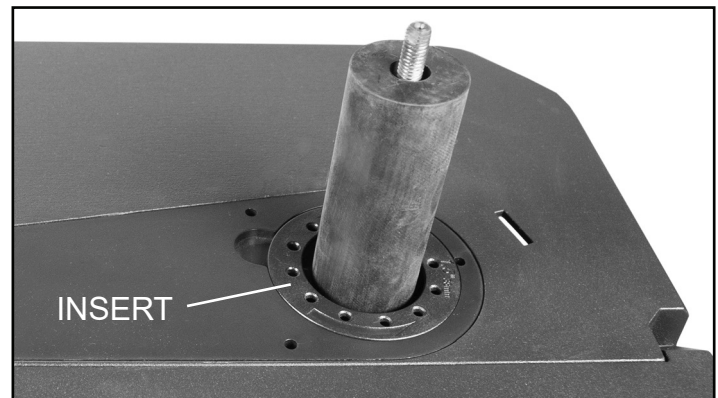
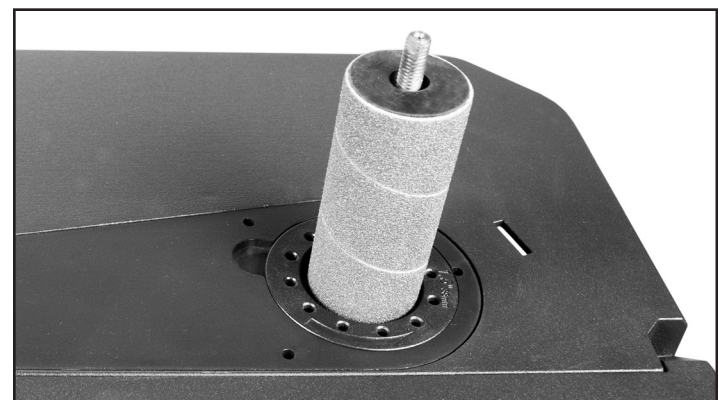

FIG. 2
FIG. 3
3. Install the appropriate size Table Insert for the drum size to be used. FIG. 2.
4. Slide desired sized rubber Sanding Drum over the Spindle Shaft. FIG. 2. Then install the corresponding Sanding Sleeve onto the drum. FIG. 3.